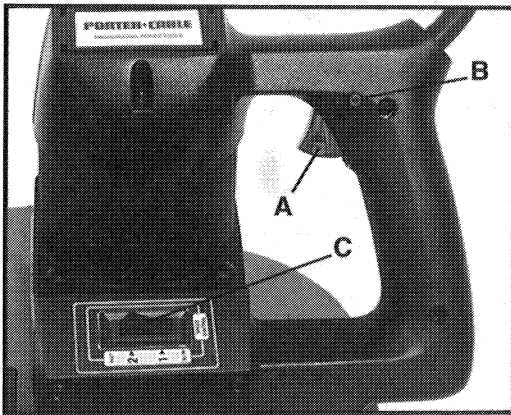

Fig. 1
2. Squeeze trigger switch (A) Fig. 1, to start motor. Release trigger to stop motor.
3. A lock button (B), Fig. 1, is provided to keep the saw running without holding the switch trigger "ON". To lock the switch trigger "ON", squeeze the trigger as far as it will go and push in the lock button and release trigger.
4. The 7723 is equipped with a two-speed control switch (C) Fig. 1. Depress the rear (1) end of the switch for LOW speed operation (approximately 230 SFPM). Depress the front (2) end of the switch for HIGH speed operation (approximately 280 SFPM). The speed may be changed while the saw is running or while it is stopped.